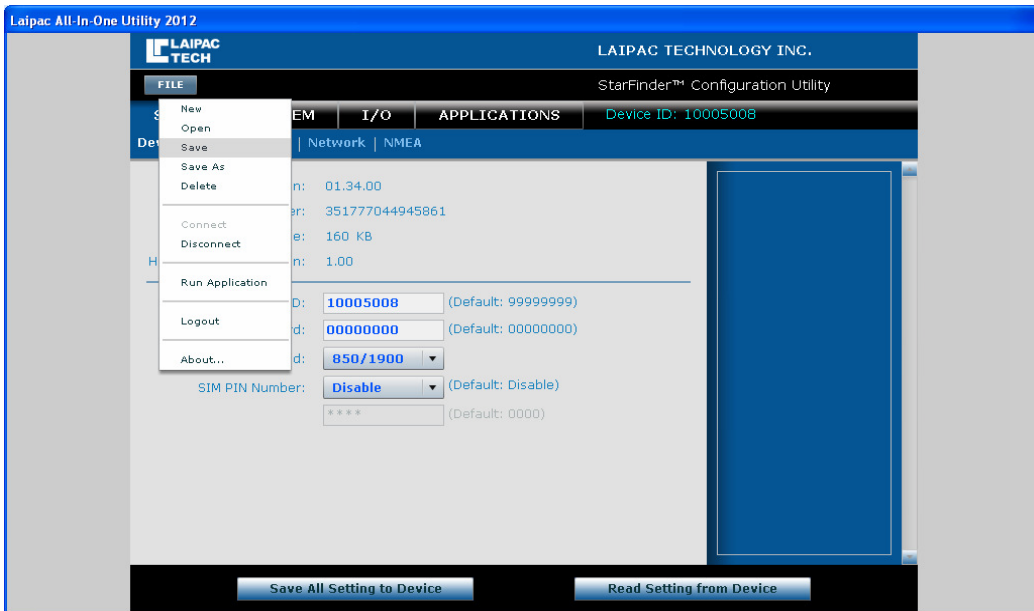
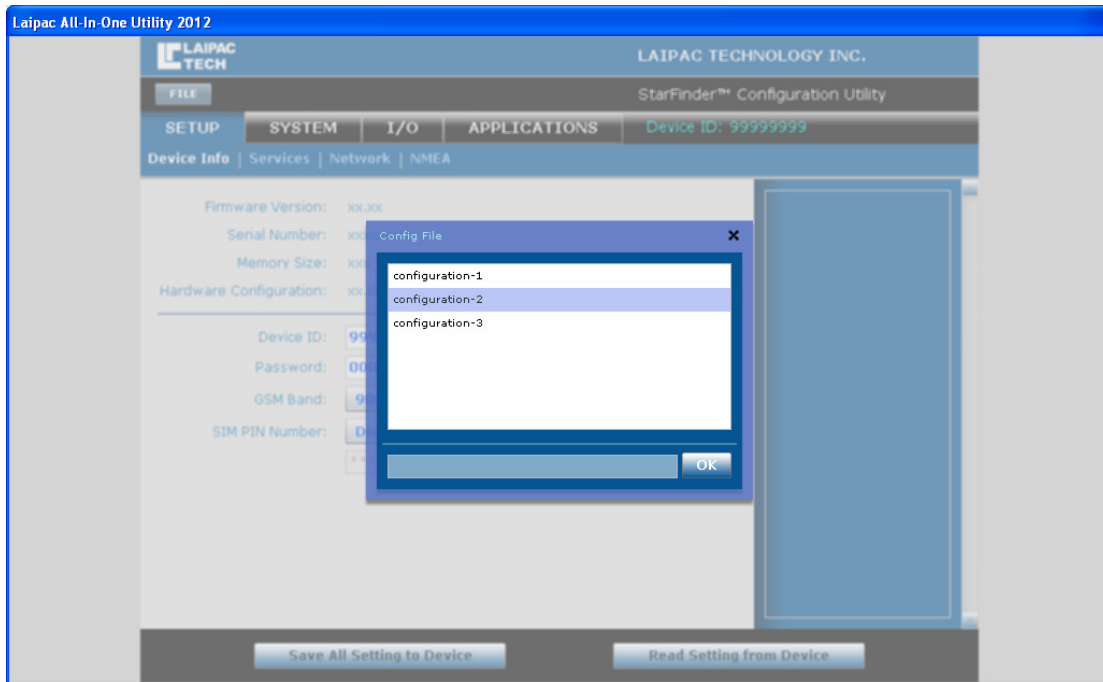

Fig. 3.4.4c
Fig. 3.4.4d
c. Click “FILE” → “Save”, see Fig. 3.4.4c and Fig. 3.4.4d